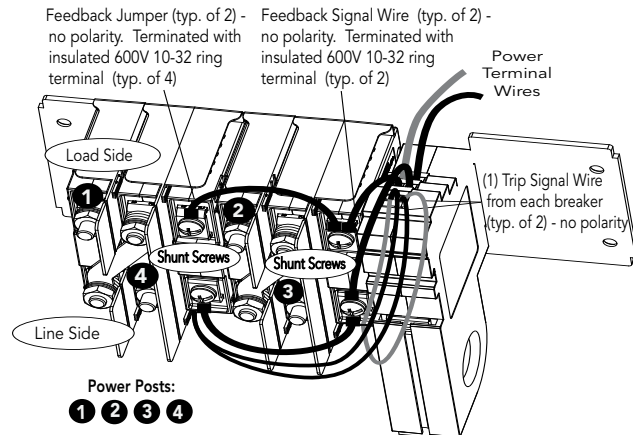

Figure 6. Pre-Wired GFPD-600V / Breaker Assembly
The GFDP-600V and breakers are assembled at the factory. Feedback jumper, shunt and trip signal leads are pre-wired to the GFDP-600V terminals - See Figure 6. The GFDP-600V external voltage source connections are described in the next section - Completing Wiring.
3.2.2 Completing Wiring - See Figures 6, 7 and 8
Step 2. Crimp the included ring terminals on the ends of the (+) and (-) solar<->breaker conductors, and attach solar array (+) wire to post (2) (load side), and solar array (-) wire to post (4) (line side) using the supplied hardware (see Figure 6).
Step 3. Crimp the included ring terminals on the breaker side ends of the (+) and (-) breaker<->controller wires. Attach breaker side (+) wire to post (3) (line side) and breaker side (-) wire to post (1) (load side) using the supplied hardware (see Figure 6).